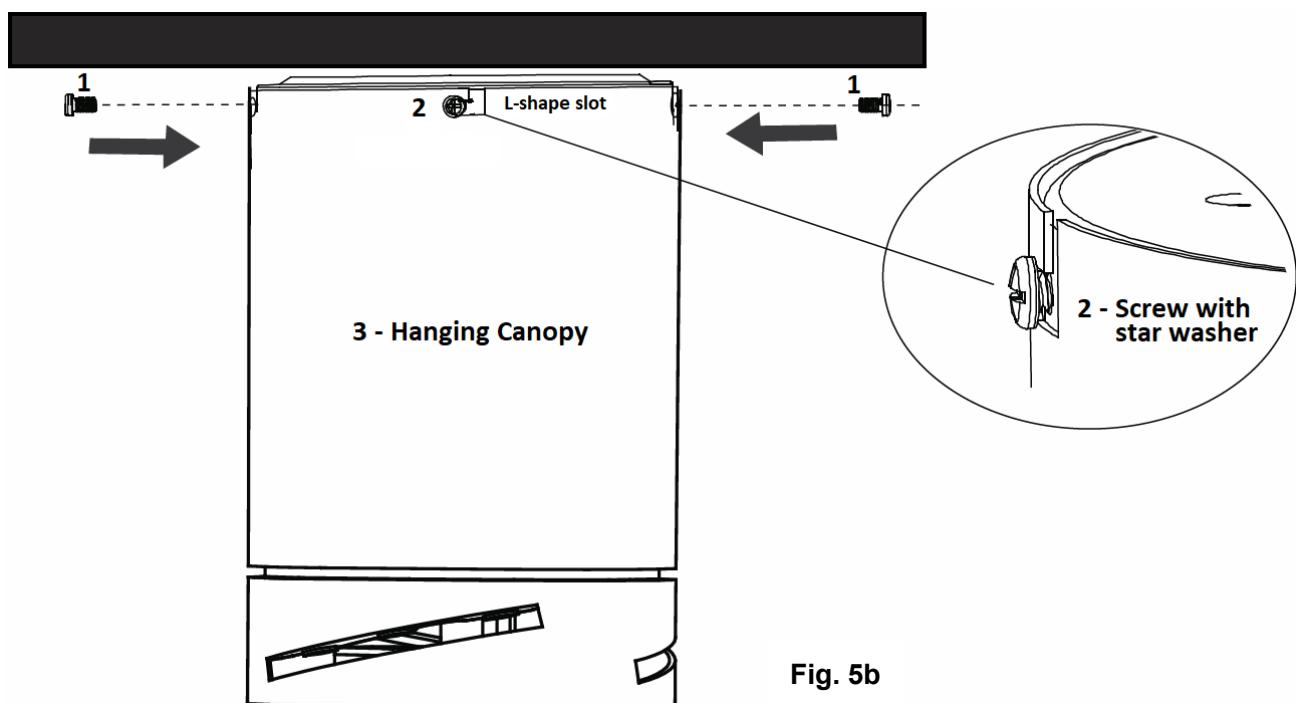

Fig. 5b
- Lift the hanging canopy (3) of the fan assembly up to the mounting bracket and let the L-shape slot on the hanging canopy (3) go through the two canopy screws with star washers (2). (Fig. 5b)
- Turn the hanging canopy (3) until it locks in place at the end section of the L-shape slot, ensure the star washer are between the hanging canopy (3) and screw head. Secure it by tightening the two canopy screws with star washer (2).
- Secure and tighten the canopy screws (1) to the mounting bracket. The hanging canopy (3) shall have 4 screws (1) & (2) in total. Avoid damaging the electrical wiring prepared previously when hanging the canopy.